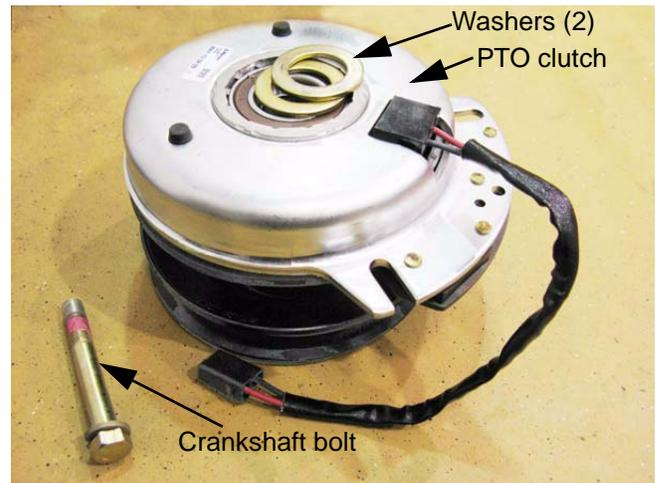

Figure 6.70
- D. Carefully lower the PTO clutch and any associated hardware. See Figure 6.70.